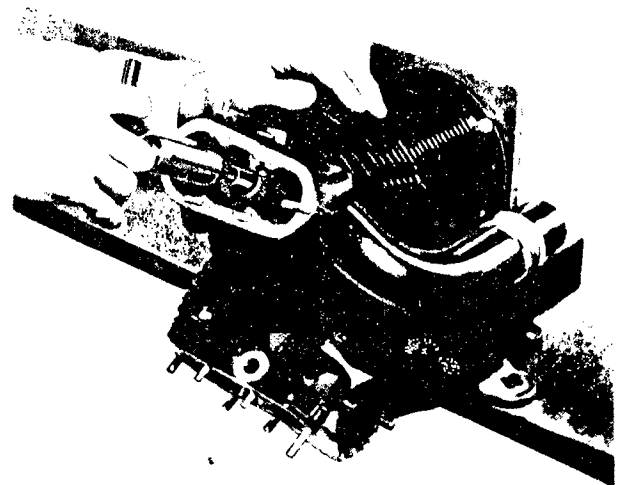

Figure 67 — Grinding Valves
d. Valve and Valve Seat Reconditioning (See figure 67)
(1) Care will be taken, when refinishing valves and valve seats, to insure that the angle of the valve and the angle of the seat are iden-